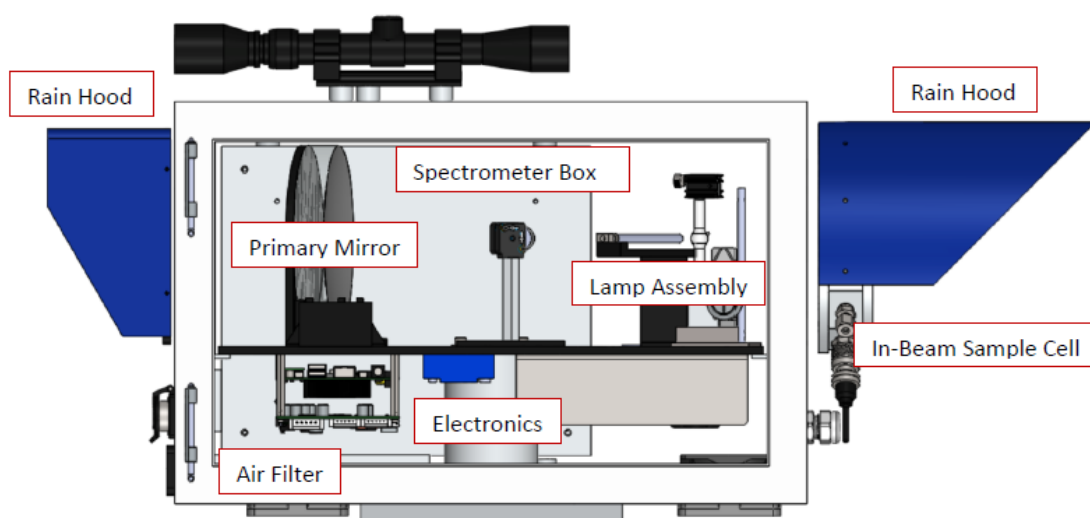

Figure 1. Schematic of the monostatic UV Sentry UV-DOAS analyzer.
The CEREX UV Sentry ultraviolet differential absorption spectrometer (UV-DOAS, shown in Figure 1) is an instrument that is used to detect BTEX, SO₂, NO₂, and a number of other gases in the ultraviolet (UV) region of the electromagnetic spectrum. The instrument consists of a Xenon light source, several optical elements, including a spectrometer. UV-DOAS instruments may be configured so that the spectrometer and source are in one location (monostatic) or at opposite ends of the path (bistatic). For a monostatic configuration, the light from the light source is collimated with the primary mirror and directed along a path length of about 500 m. At the other end of the path is an array of corner-cube reflectors called retroreflectors that direct the light directly back into the analyzer where the light is dispersed and measured using a spectrometer. The working range of the spectrometer is from about 200 to 400 nm. This document addresses the routine operations and maintenance procedures for the Cerex Monitoring Solutions UV Sentry units. The procedure is intended to guide the field technician in ensuring and verifying that the equipment is performing to expectations. As required, hard copies of this procedure and the associated test forms will be kept on site and a copy of the test form showing the results will be sent to the Refinery Project Manager upon completion of the test procedure.